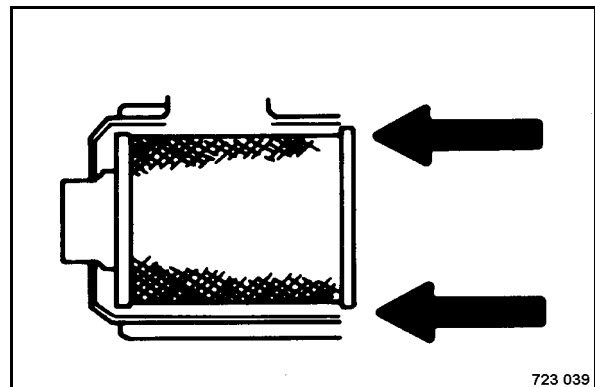

Fig. 187
- Slide the air filter carefully into the housing (Fig. 187).